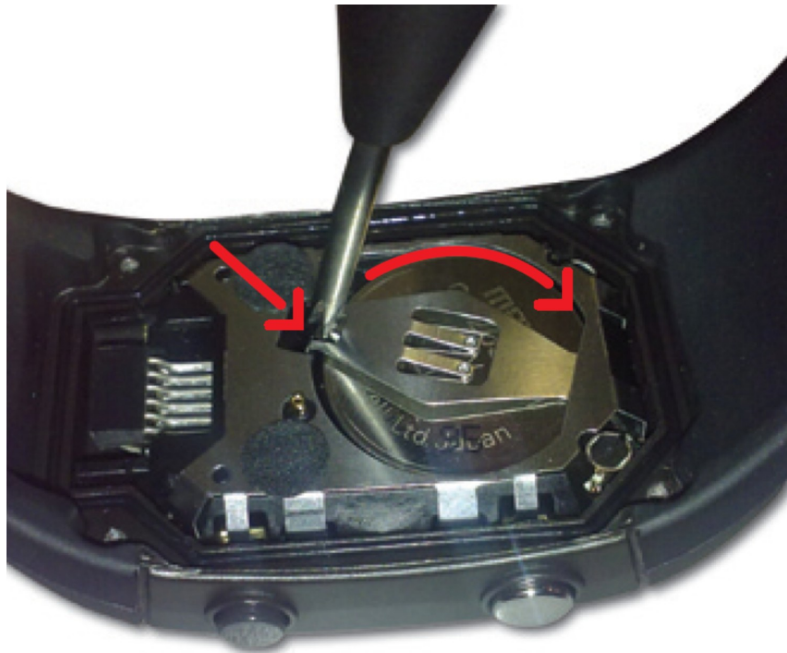

Figure 4-2. Removing Watch Battery
4. Remove the battery before connecting the module to the emulator. Place the screwdriver tip between the battery and the battery holder (small metal tab) and push the tab away from battery (see Figure 4-2). Detailed instructions are shown in the eZ430-Chronos Disassembly/Assembly video on www.ti.com/chronoswiki.